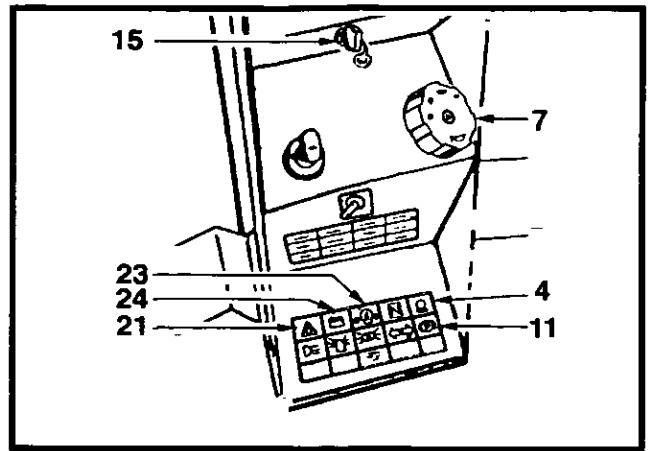
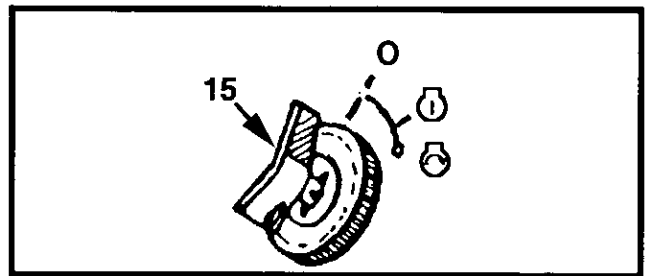
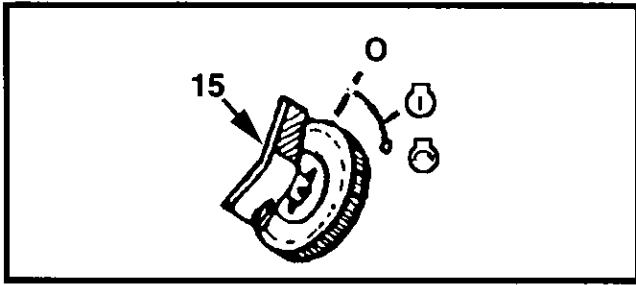
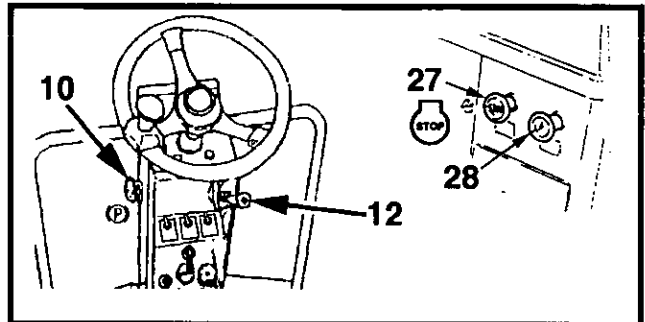

Figure 4-7 Indicator Lights
Figure 4-8 Ignition Switch
Figure 4-10 Ignition Switch
Figure 4-13 Emergency Stop/Parking Brake
The red brake on indicator, (4, Figure 4-7), will illuminate when the brake is applied.
7. Turn ignition switch key (15, Figure 4-8) to **I** position, and verify that the following **RED** indicator lights (Figure 4-7) are all illuminated.
10. With parking brake applied, turn ignition switch key to position (Figure 4-10).
11. Return ignition switch key to position **O** (Figure 4-10).
2. Position the engine speed control lever 12 to Low IDLE position 'A', (Figure 4-13).
3. Ensure the Parking Brake is **ON**. The **RED** Brake Light (11, Figure 4-7), will illuminate to advise the Parking Brake is applied. If not applied press in the Parking Brake Switch (10, Figure 4-13).
- Alternative Emergency Stop can be effected by pulling the Engine Stop Knob (27, Figure 4-13)
5. When normally starting a cold engine, use the excess fuel control by pulling out the control knob (28, Figure 4-13), located on the right face of the engine canopy, Start engine by turning ignition switch key to **O** position (Figure 4-10). Once engine starts, release switch immediately, and it will return to **I** position (Figure 4-10).
8. Release parking brake control\* (10, Figure 4-13). Observe area around machine for personnel/obstructions..
10. Apply parking brake control when the parking brake light (4, Figure 4-7), should illuminate. Release the parking brake when the parking brake light should extinguish.
11. Check for correct operation of the emergency stop while propulsion control is in the STOP position, and pull the red emergency stop knob  (27, Figure 4-13).